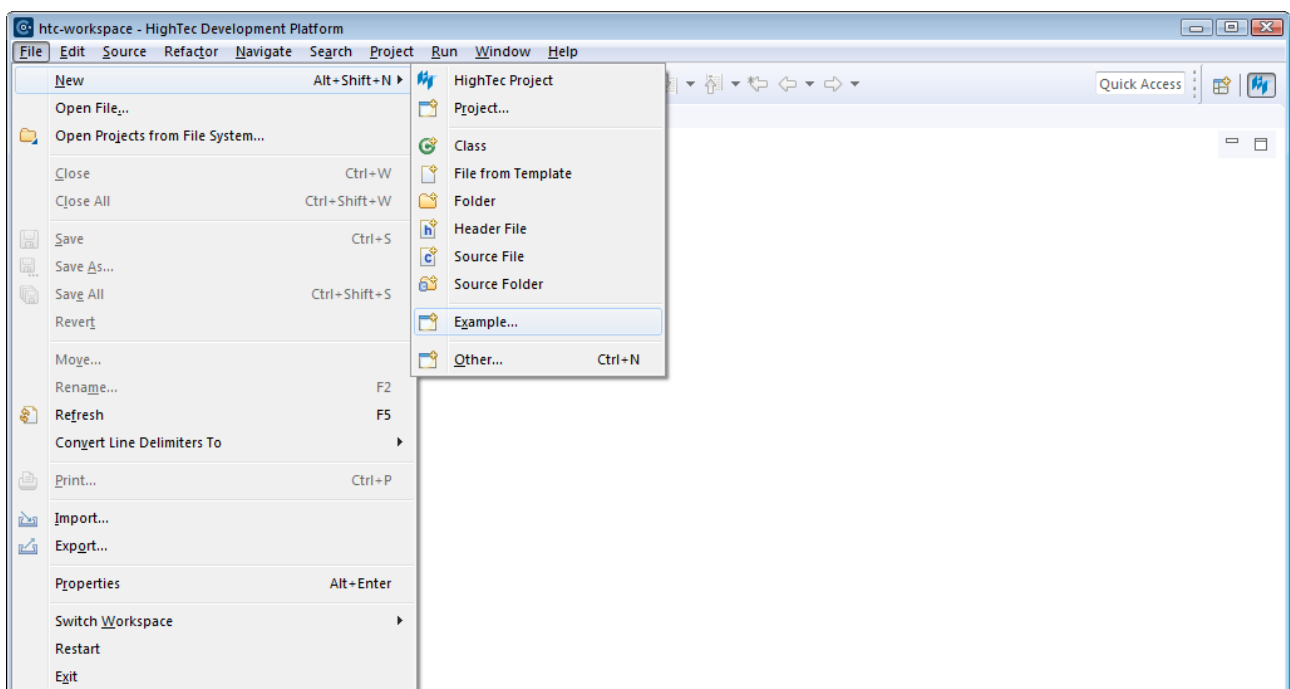
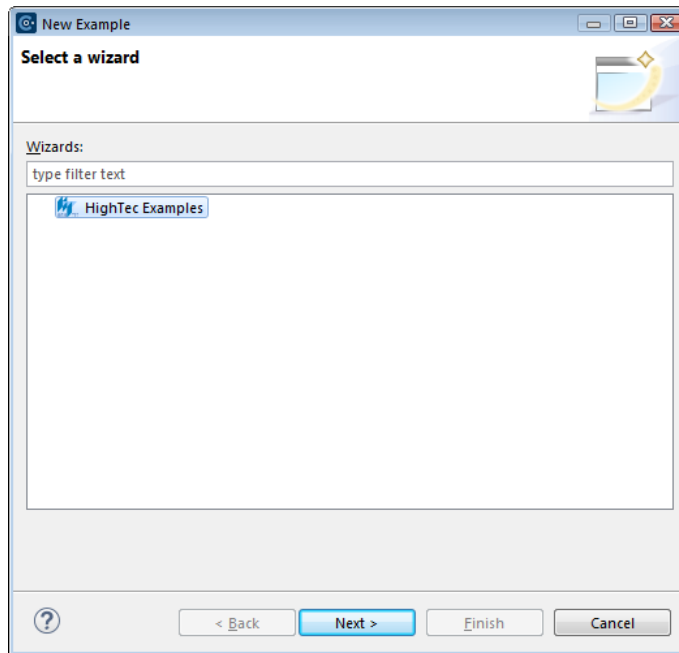

Figure 10 Menu File / New / Example
Figure 11 New Example Wizard
Before creating an AURIX/TriCore project, it is necessary to have the **HighTec C/C++** perspective on the workbench (Figure 10). By default, this should be the case when you start HighTec Development Platform, but if it is not, do the following.
1. From the **File** menu select **New - Example** (Figure 10). The New Example wizard appears (Figure 11).